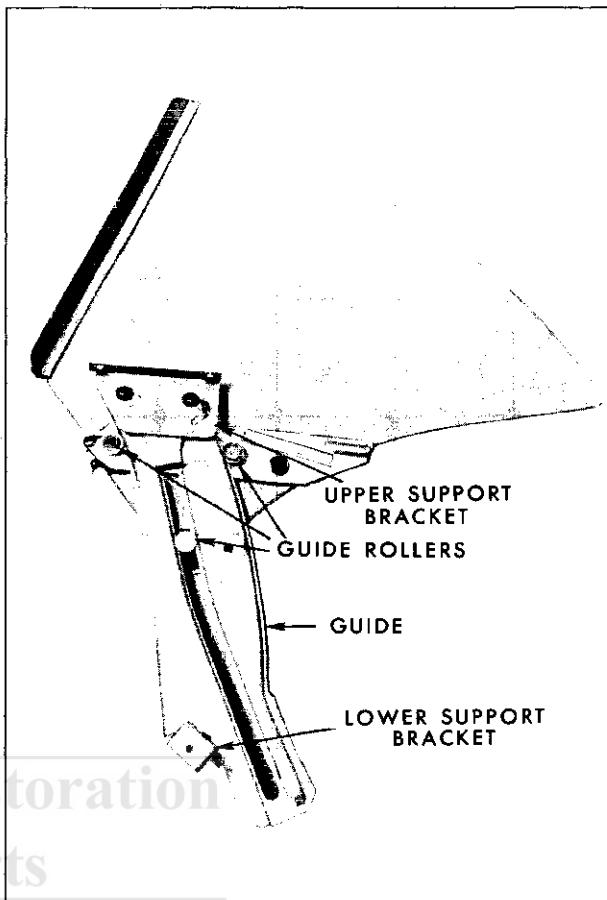

Fig. 7-15—Rear Quarter Window and Guide Assembly "A - 37, 67, 87" - Styles
2. On "67" Styles, remove window guide upper support to inner panel attaching bolts. On "37" and "87" Styles, remove upper support to window guide attaching bolts (Fig. 7-15).